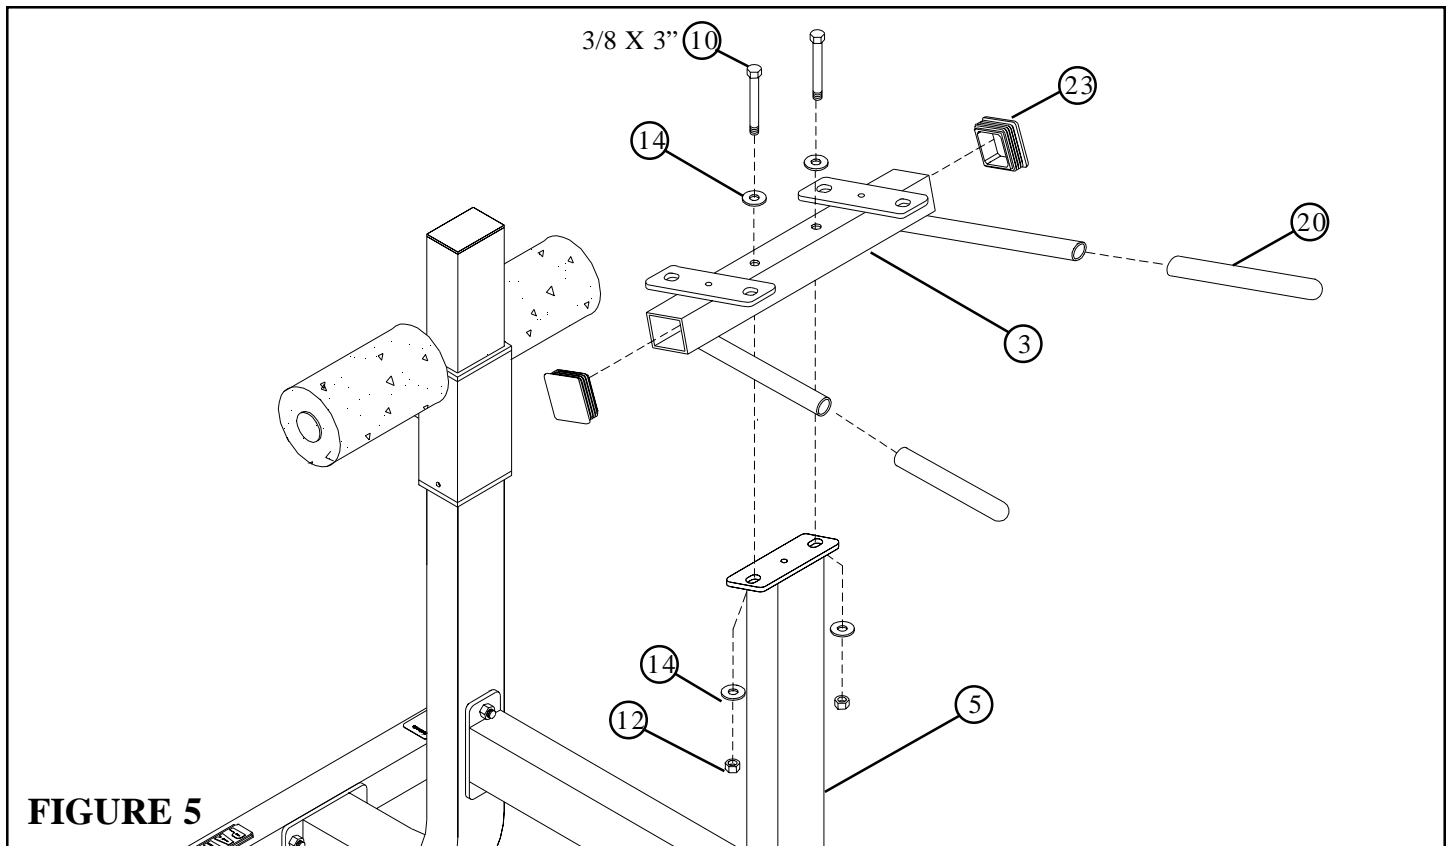

FIGURE 5
- Insert two 2" SQ. END CAPS (23) into the ends of the HIP PAD SUPPORT (3) as shown in FIGURE 5.
- **SECURELY** assemble the HIP PAD SUPPORT (3) to the FRONT UPRIGHT (5) using two 3/8" X 3" BOLTS (10), four 3/8" WASHERS (14), and two 3/8" LOCK NUTS (12). See FIGURE 5.
- Slide two 1 X 8" GRIPS (20) onto the HIP PAD SUPPORT (3). (Using water will help slide them on.)